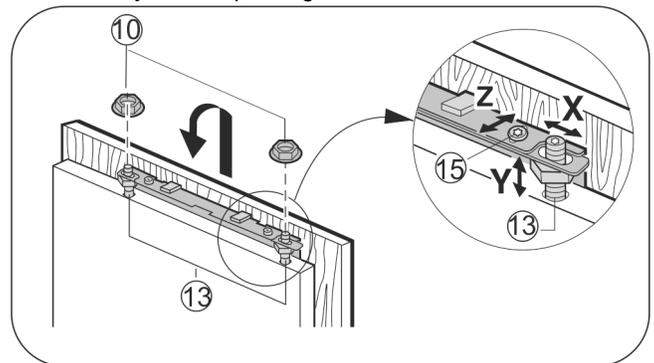

Fig. 31
- ▶ Attach the unit door on the adjusting bolts Fig. 31 (13) and loosely screw locknuts Fig. 31 (10) onto the adjusting bolts.
- ▶ To align the unit door in the Y direction (height) and in lateral inclination: Adjust the adjusting bolts Fig. 31 (13) with a screwdriver.
- ▶ Tighten the locknuts *Fig. 31 (10)*.